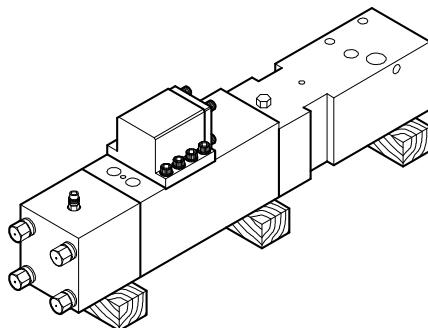

Fig. 8-1
- 1) Put the body on wooden supports of the equivalent size. => Fig. 8-1.